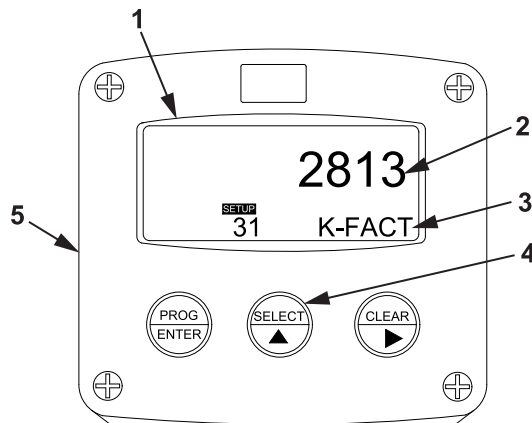

Figure 19. K-FACT Display.
- b. Verify that K-FACT (Figure 19, Item 3) appears on the display screen (Figure 19, Item 1) and that the K-factor (Figure 19, Item 2) displayed matches the K-factor written on the tank volume meter. If the K-factor (Figure 19, Item 2) displayed does not match, perform the procedure to program tank volume meter monitor settings and enter the K-factor as shown on the tank volume meter.
- c. Press the SELECT key (Figure 19, Item 4) on the tank volume meter monitor (Figure 19, Item 5).